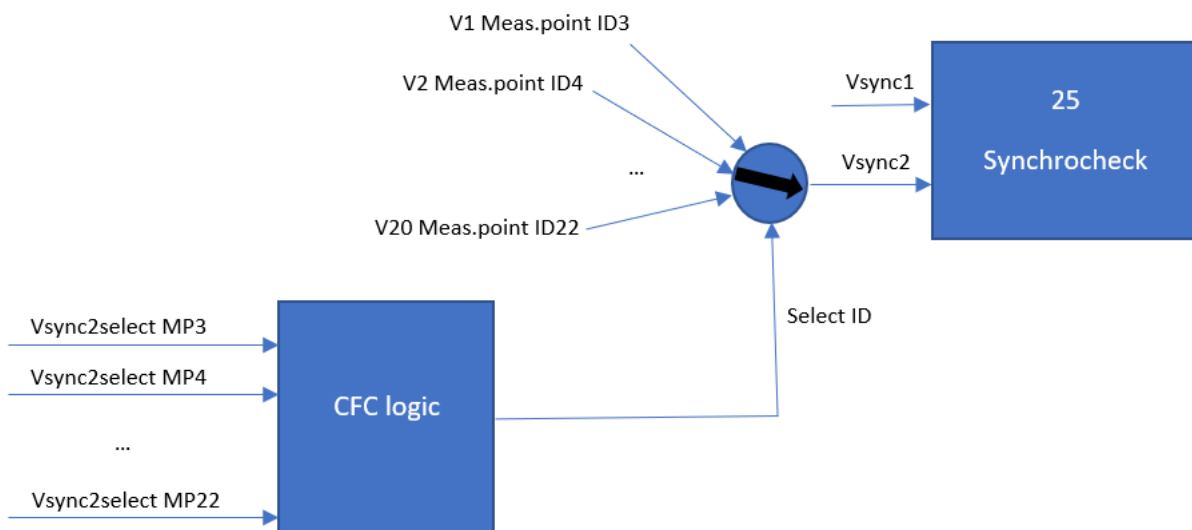

Fig.6: Overview Voltage Selection functionality
2. Replacement logic to replace the value with invalid value "23" if more than one of the status inputs has value "high", see Fig.6.